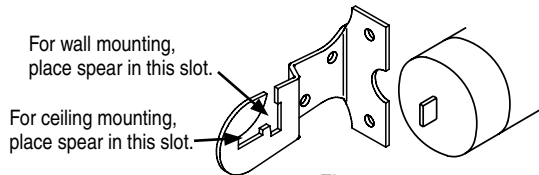

Figure 3
- ⑫ Lower spear on left end of roller into left bracket and rotate into locked position (see Fig. 3). Note: The notch on the spring roller should be positioned down. The spring has been pre-tensioned in the factory.